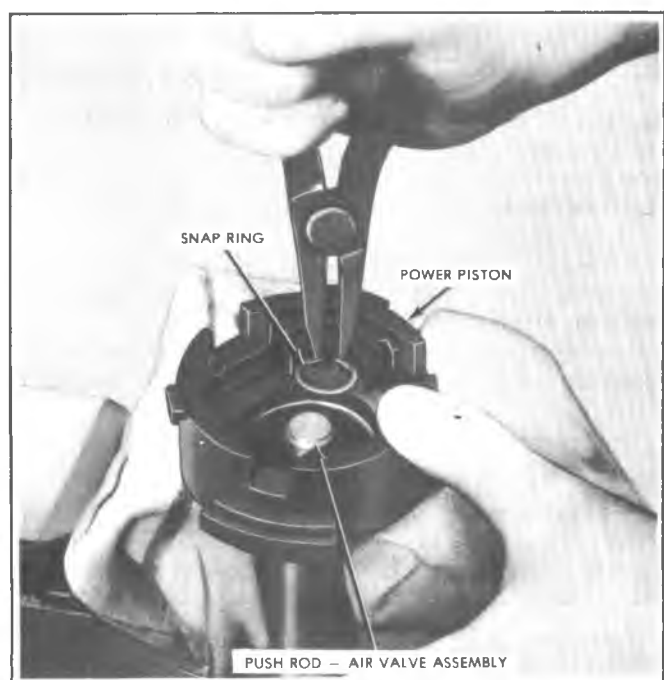

Fig. 5-9C--Removing Power Piston Snap Ring
10. Use Snap Ring Pliers J-4880 to remove snap ring on air valve (fig. 5-9C).